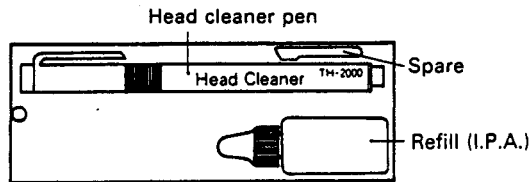

Fig. 2-24
- When the pen core is dirty, replace it with the spare pen. (Fig. 2-24)